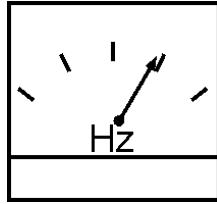

Figure 44. Frequency Meter (Hz)
6. The generator's frequency meter (Figure 44) should be displaying the 60 cycle output frequency in **HERTZ**.